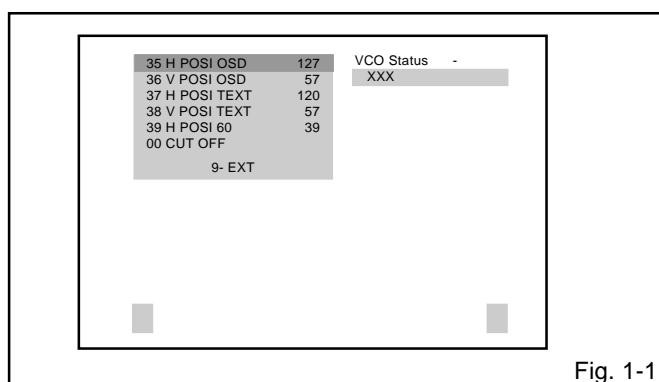

Fig. 1-1
2. Press the VOL. DOWN button on the set and the channel button (9) on the remote control for more than 2 seconds to display adjustment mode on the screen as shown in Fig. 1-1.
3. Activate the adjustment mode display of Fig. 1-1 and press the channel button (13) on the remote control to select "VCO COARSE".
4. Activate the adjustment mode display of Fig. 1-1 and press the channel button (01) on the remote control to select "RF AGC".
3. Activate the adjustment mode display of **Fig. 1-1** and press the channel button **(08)** on the remote control to select "H POSI 50".
7. Activate the adjustment mode display of **Fig. 1-1** and press the channel button **(39)** on the remote control to select "H POSI 60".
3. Activate the adjustment mode display of **Fig. 1-1** and press the channel button **(09)** on the remote control to select "V POSI 50".
9. Activate the adjustment mode display of **Fig. 1-1** and press the channel button **(10)** on the remote control to select "V POSI 60".
3. Activate the adjustment mode display of **Fig. 1-1** and press the channel button **(11)** on the remote control to select "V SIZE 50".
8. Activate the adjustment mode display of **Fig. 1-1** and press the channel button **(12)** on the remote control to select "V SIZE 60".
2. Activate the adjustment mode display of **Fig. 1-1** and press the channel button **(35)** on the remote control to select "H POSI OSD".